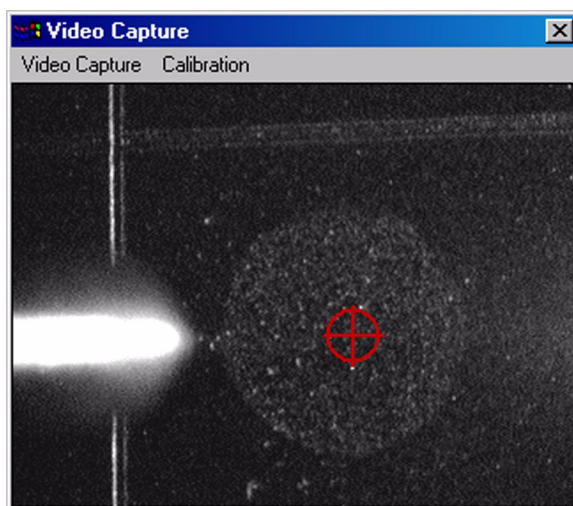

Figure 77 Video Capture screen after calibration was completed in step 5
- 6 In step 5 of this calibration procedure, click **Finish** to accept the new calibration. See Figure 77.